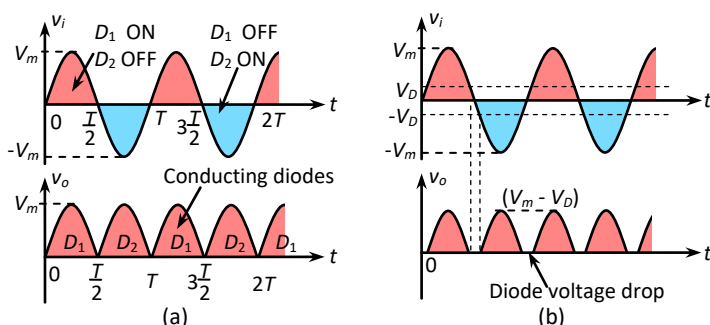

Fig.2-25: (a) Full-wave rectified output neglecting diode's barrier voltage  $V_D$ , and (b) Full-wave rectified output considering  $V_D$
During the positive half-cycle ( $t = 0$  to  $T/2$ ), the transformer output voltage is positive at the top. This positive terminal is connected to the anode of  $D_1$ , and the negative centre-tape is connected to the cathode of  $D_1$  via  $R_L$ . Consequently,  $D_1$  is forward biased, and load current,  $I_L$ , flows from top of the transformer secondary through  $D_1$ , through  $R_L$  (downward), and back to the transformer centre-tap. During this time, the polarity of the voltage from the bottom half of the transformer secondary causes diode  $D_2$  to be reverse biased. Thus,  $D_1$  behaves as short-circuit (ON) and  $D_2$  behaves as open circuit (OFF) as shown in Fig.2-25(a). If the diode voltage drop is neglected the whole input voltage (transformer output voltage) will be developed across the load  $R_L$ .
During the negative half-cycle of the input ( $t = T/2$  to  $T$ ), the bottom-most terminal of the transformer secondary will be positive and the centre-tape will be negative. So,  $D_2$  will be forward biased and behaves as short circuit as illustrated in Fig.2-25(a). Now, the load current flows from bottom of the transformer secondary through  $D_2$ , through  $R_L$  (from top to bottom), and back to the transformer centre-tape. As the polarity of the voltage of the upper half of the secondary has just reversed, diode  $D_1$  will now be reverse biased and it will behave as open circuit.
the voltage drop of the diodes the output waveform will be as shown in Fig.2-25(a). But, if we consider the voltage drop of the diodes the output wave form will be as shown in Fig.2-25(b). For both the positive and negative half-cycles, the voltage dropped across the reverse biased diode will be  $2V_m$ . So, the PIV (**peak inverse voltage**) rating of the diodes must be greater than  $2V_m$ .